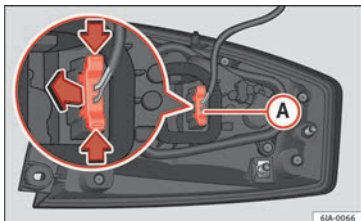

Fig. 154 Light connector at the rear of the rear light unit.
- Disconnect the light connector **(A)** » **Fig. 154** by moving its side levers (arrows) and pulling the connector outwards.